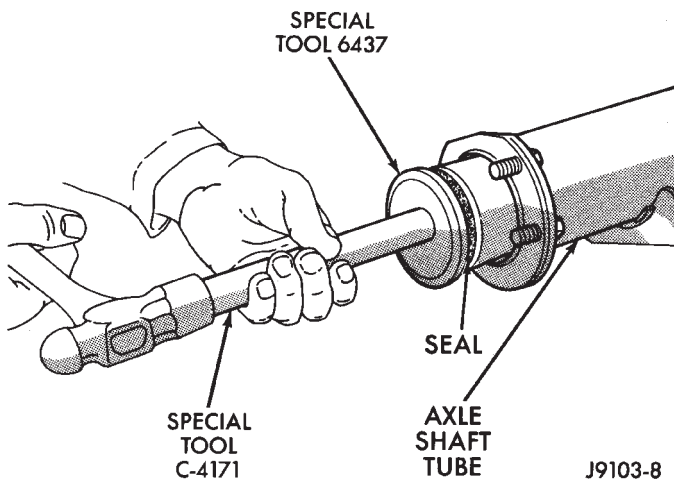

Fig. 26 Axle Shaft Seal Installation
- (1) Wipe the bore in the axle shaft tube clean.
- (2) Install axle shaft bearing with Installer 6436 and Handle C-4171. Ensure part number on the bearing is against the installer.
- (3) Install the new axle shaft seal (Fig. 26) with Installer 6437 and Handle C-4171.